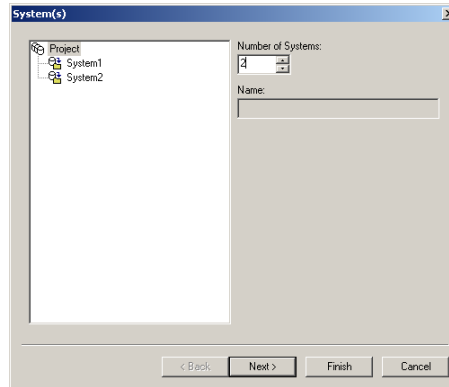

Figure 14: System(s) dialog box, Navigator
- 3 A System(s) dialog box is displayed. See *Figure 14*, page 23.
- 2 Select **Add to current workspace**, and click **OK**. The first page of the wizard is displayed. See *Figure 14*, page 23.